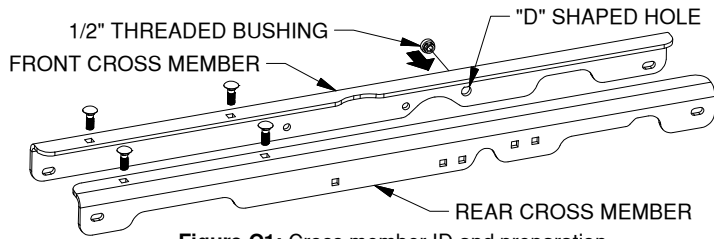

Figure C1: Cross member ID and preparation.
1. **Prepare the cross members.** Identify the hitch cross members. Place a 1/2" x 1-1/2" carriage bolt into the two top holes on each cross member. Locate the "D" shaped hole in the front cross member and insert a 1/2" threaded bushing into the outside of the hole, as shown in Figure C1.